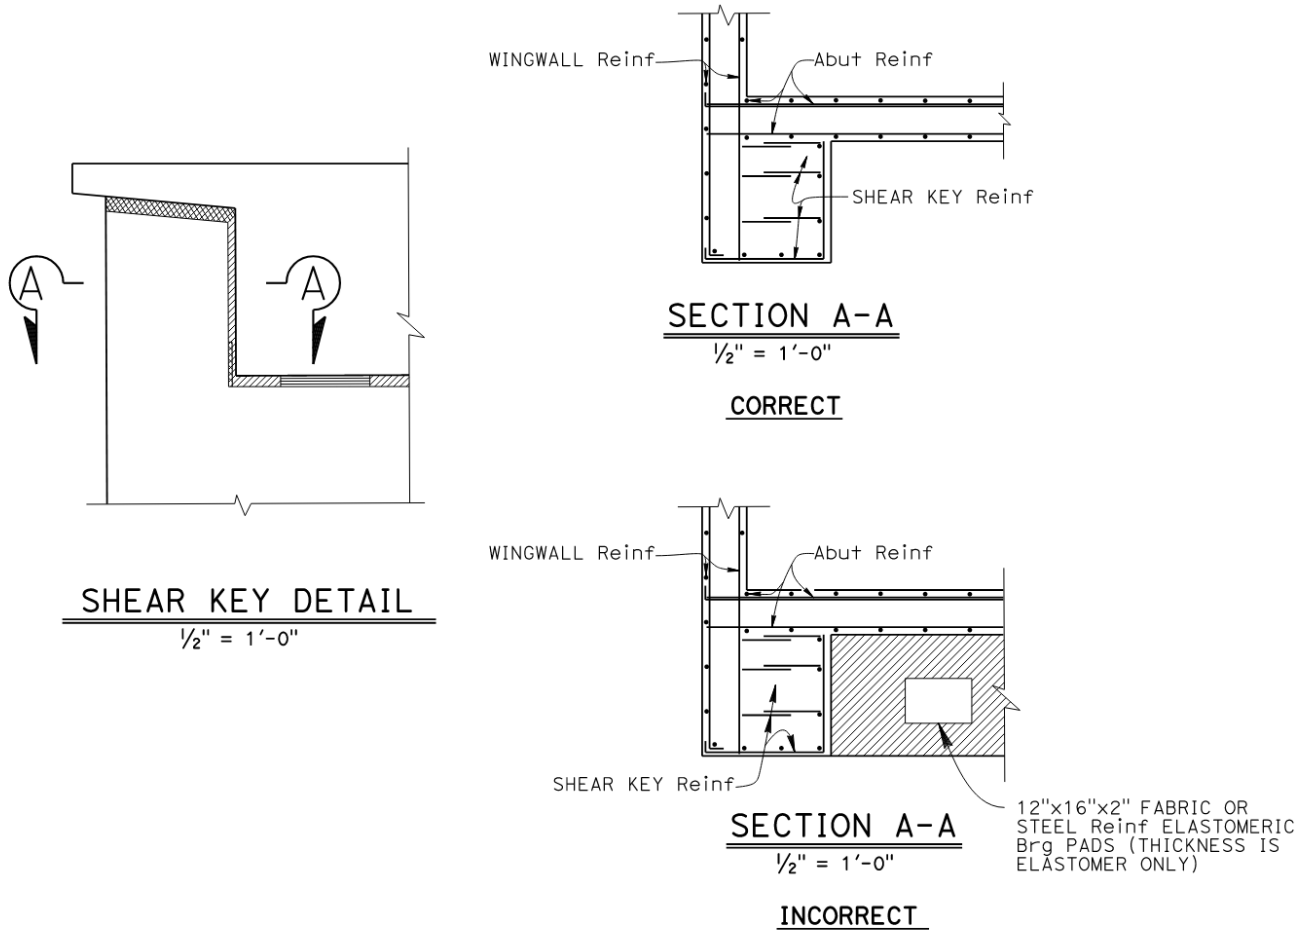

Figure 1.1.2 Section View
- A SECTION view shall show all intersecting lines that intersect the SECTION cut plane, whereas a VIEW is a projection. Unlike a VIEW, do not show hidden lines, reinforcement, or other items beyond the cut plane in a SECTION. For an example of a SECTION view, see Figure 1.1.2.